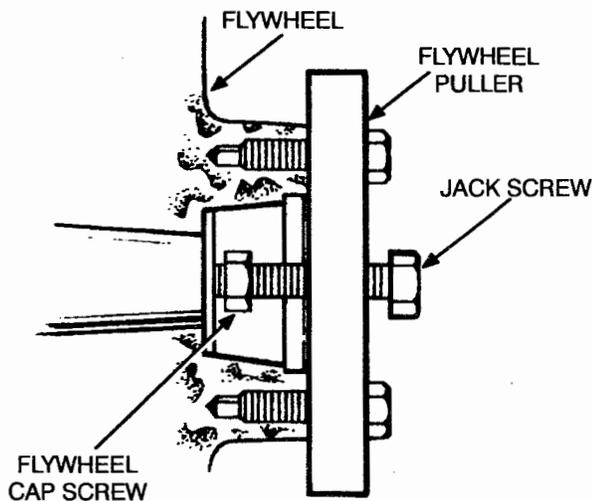

FIGURE 6-4. FLYWHEEL PULLER
1. Loosen the flywheel capscrew and back it out several turns. See Figure 6-4.